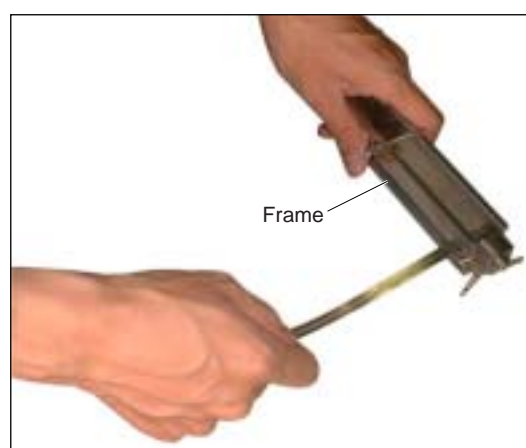

Fig. 3-3
- (2) Pass the stainless steel belt through 2 belt holes on the frame as shown in Fig. 3-3.